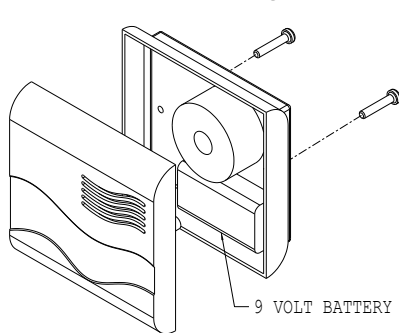

FIGURE 2
1. Slide alarm from holder and install a 9 volt battery in the alarm by removing two screws located in the back of the alarm. **Reference Figure 2**